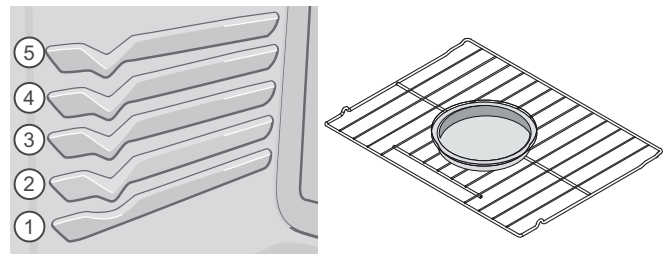

Figure 10: Oven rack positions; single rack baking
- Always place food in center of the oven on rack position 3 flat rack or 2 Glide rack(Figure 10).
- Place the food as shown in Figure 10.